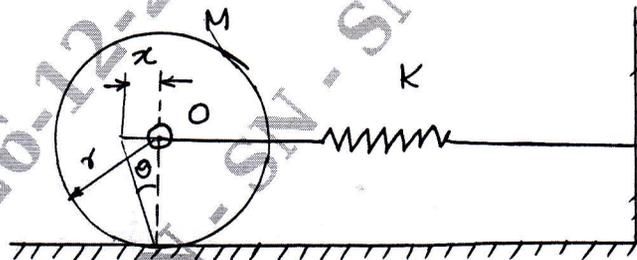

Fig.Q3(b)
- b. Determine the natural frequency of the system shown in Fig.Q3(b).